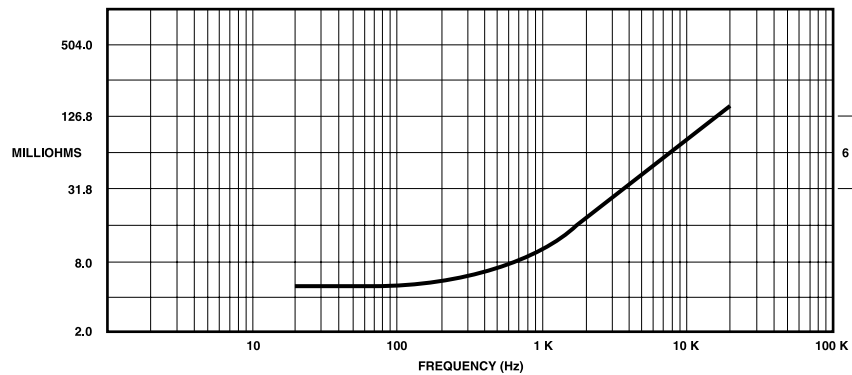

Figure 2.5 Typical Output Impedance
**Output Impedance:** Less than 10 milliohms in series with less than 2.5 microhenries (see Figure 2.5).